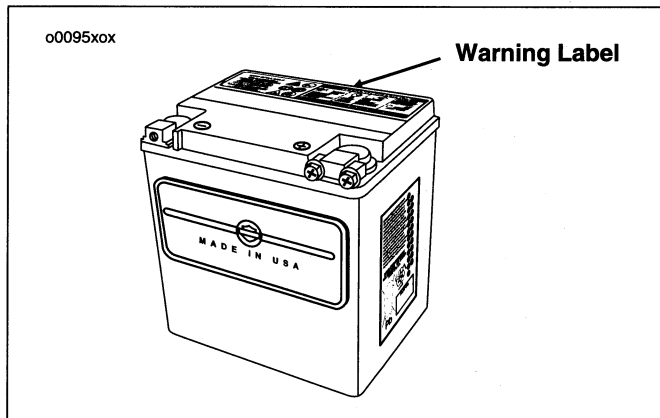

Figure 73. Battery
See Figure 73. All Harley-Davidson batteries are permanently sealed, maintenance-free, lead/calcium and sulfuric acid batteries. The batteries are shipped pre-charged and ready to be put into service. Do not attempt to open these batteries for any reason.
- See Figure 73. A warning label is attached to the top of the battery. Never remove the warning label from the battery.